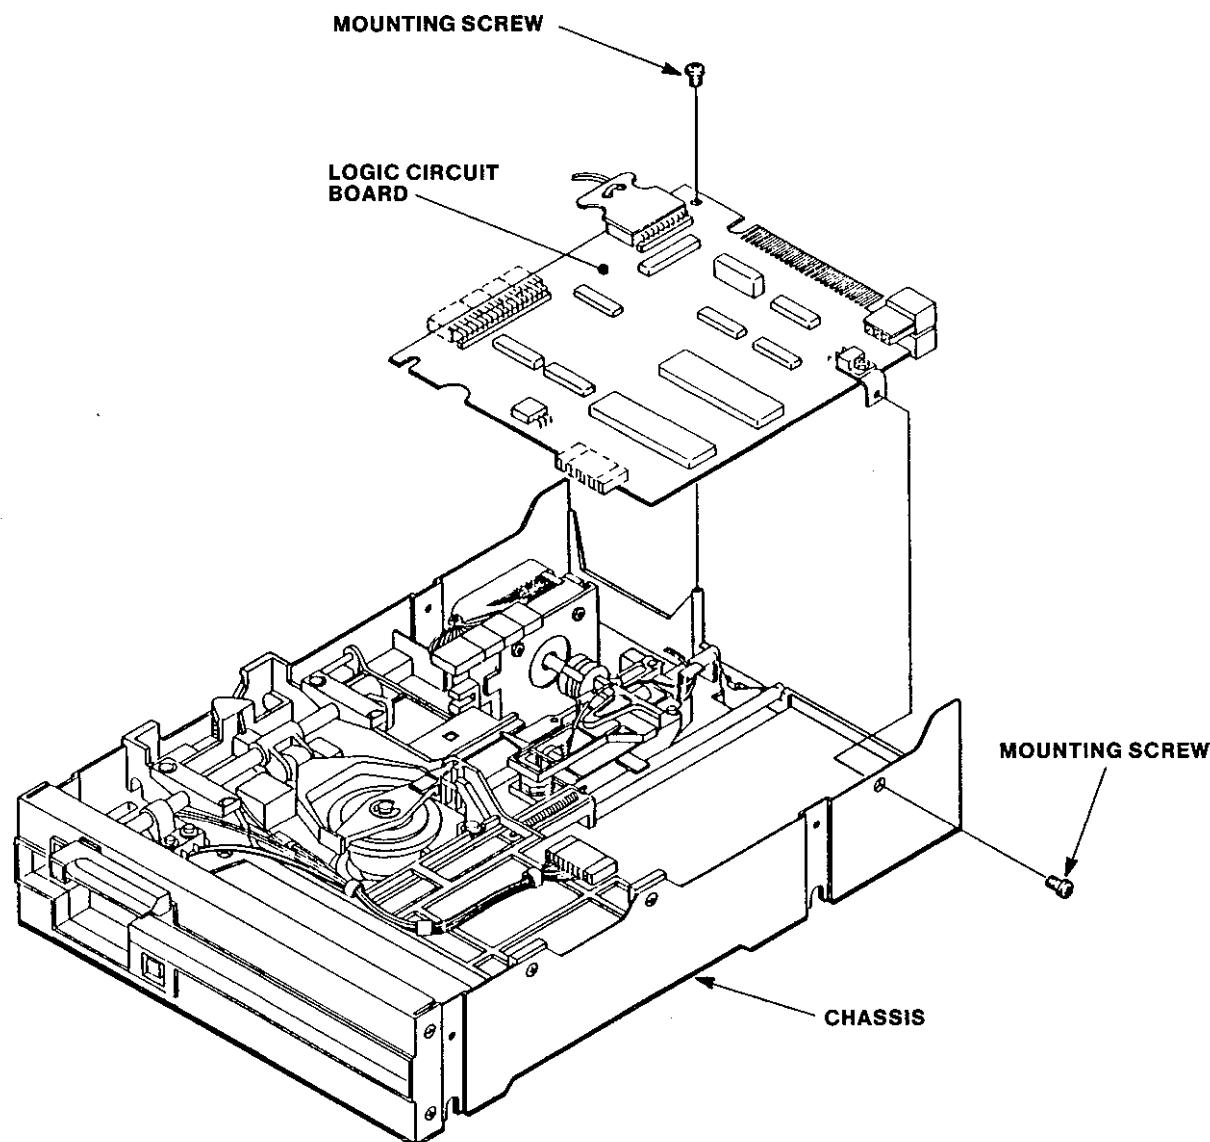

FIGURE 6-1
1. Remove all connectors from the circuit board (Figure 6-1). Note their location.